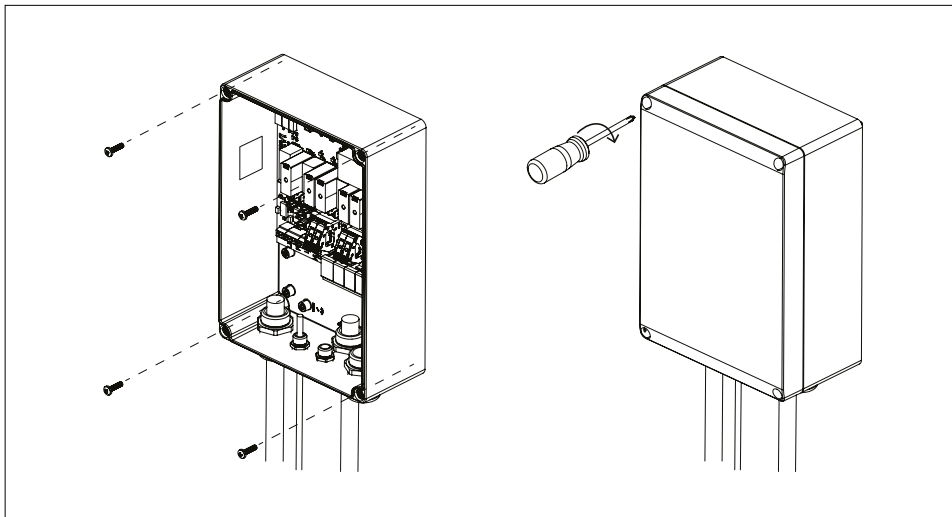

Figure 6.3-2 Mounting of the power unit to the wall and securing the cover
11. Close the cover of the power unit and tighten the cover screws (Figure 6.3-2).